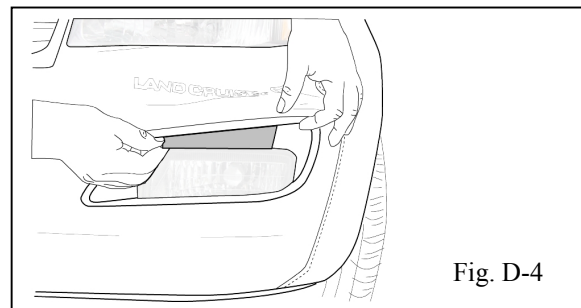

Fig. D-4
- ➡ 4. Insert one (1) nylon flap above the fog light (Fig. D-4.) Repeat on other side of vehicle.